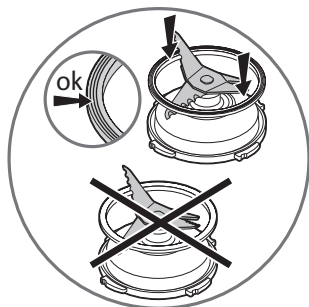

fig.1
- Moisten the gasket **(c2)** and position it correctly on the blade unit **(c1)**: the 3 folds of the gasket must be visible once it is in place. If it is positioned in the other direction, you will not be able to lock the blade unit on the jug. **(figure 1)**.